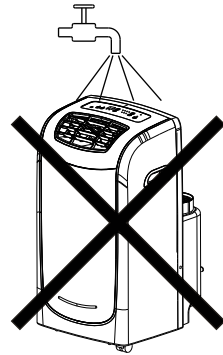

Fig. 17
3. Do not wash the unit directly under a tap or use a hose (Fig. 17). Getting moisture inside the unit will cause an electrical hazard.